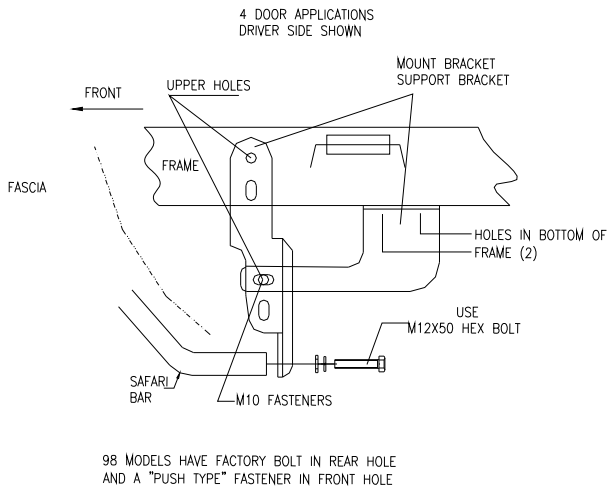
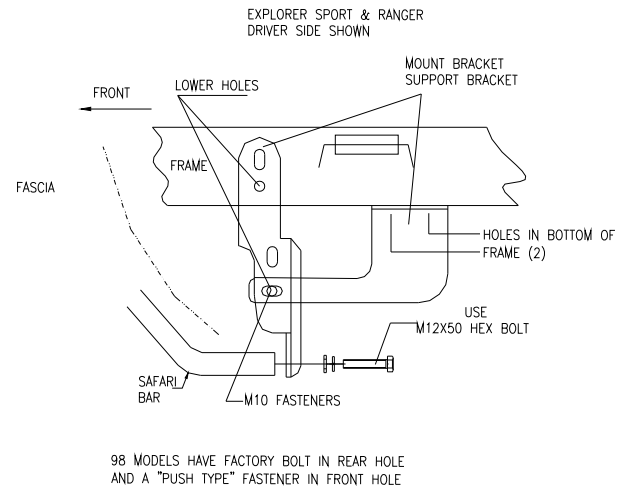

FIGURE 1
FIGURE 2
- STEP3. Install Mount Brackets on the outside face of frame members with M12×100 Hex Bolts. NOTE: 4 Door applications use upper holes. See Figure1. NOTE: ExplorerSM and Ranger uses lower holes. See Figure2. Secure with Backing Plates and 1/2" fasteners. See Figure3 Leave loose.
- STEP4. Install Support Brackets using bores in bottom face of vehicle frame. '96-'97; Secure to frame using M10 Self Tap Bolts. See Figure 1 and 2. '98; Vehicles have a factory bolt in rear hole to hold Radiator Shroud. See Figure 1 and 2. Remove with 10mm Socket. Remove "push type" fastener holding rear of shroud to frame. Install Support Bracket between top of shroud and frame. Replace factory bolt. Replace push type connector with M10 Self Tap Bolt. Leave loose.
- STEP5 Secure Support Bracket to Mount Bracket using M10 fasteners. See Figure 1 and 2 .